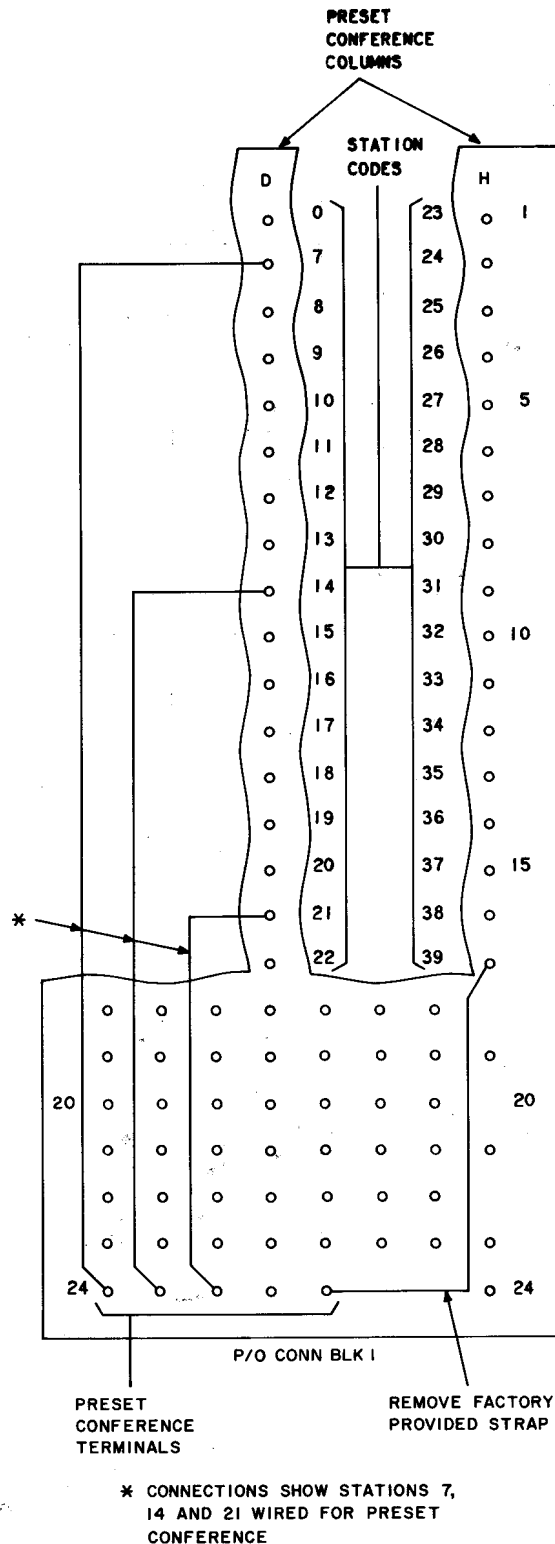

Fig. 29—Connections for Preset Conference on Intercom
- (1) Locate the preset conference terminals, row 24, on connecting block 1 (Fig. 29).
- (2) Locate the station code terminals, column D or H, on connecting block 1, and identify the terminals associated with the stations to be connected for preset conference (Fig. 29).
- (3) Remove the factory-provided strap between terminals E24 and H17.
- (4) Strap the terminals in the preset conference row to the desired station terminals in column D or H (Fig. 29).
- (5) Test the preset conference arrangement by having code 39 dialed from a nonconference